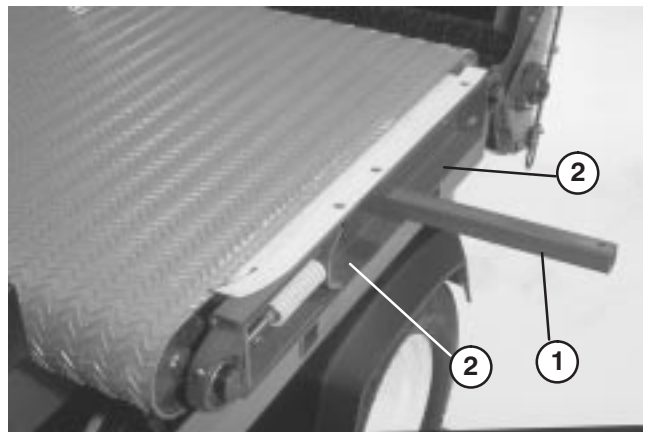

Figure 8
7. Remove (2) cap screws, washers and nut, on left side of machine, securing slider bed to frame (Fig. 8).
1. Insert a lift bar into hole on left side of machine and raise lift bar to tip slider bed (Fig. 8).